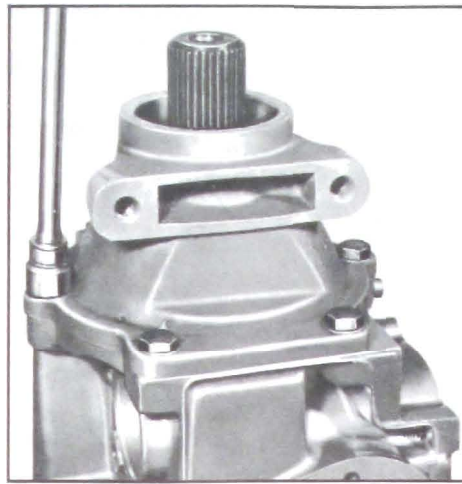

Figure 5-534
2. Remove extension housing to case attaching bolts. See Figure 5-534.